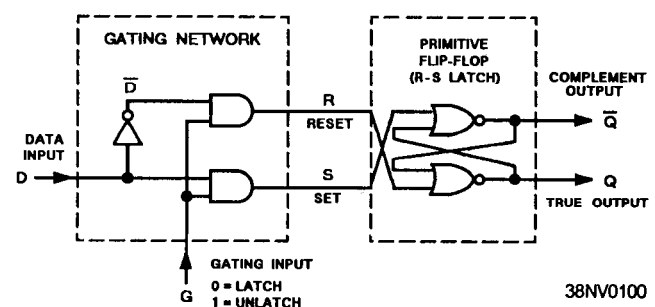

Figure 4-14.—Example of a gated operation.
- Gated (latched) operations —This term is used when describing logic functions that can be **turned on** or **turned off**, dependent upon an input control signal (command or enable). See figure 4-14.